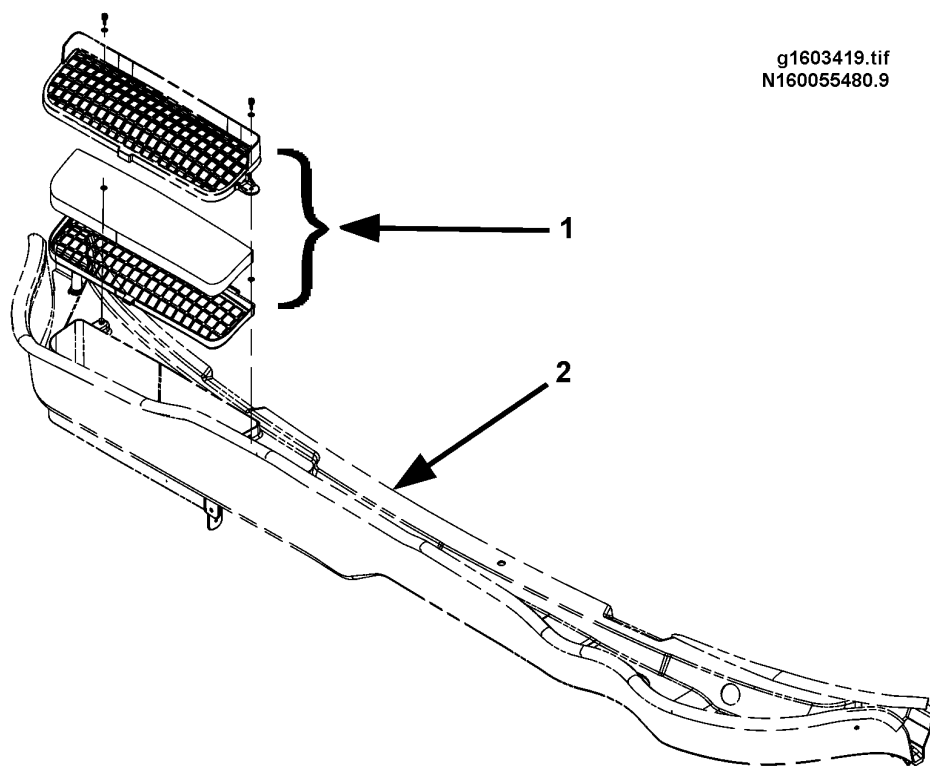

Figure 19 Location of Air Inlet Filter/Grille
1. Remove grille or filter/grille covering HVAC air inlet (1, Figure 19), located in cab cowl tray at base of windshield.
4. Install grille or filter/grille covering HVAC air inlet (1, Figure 19).